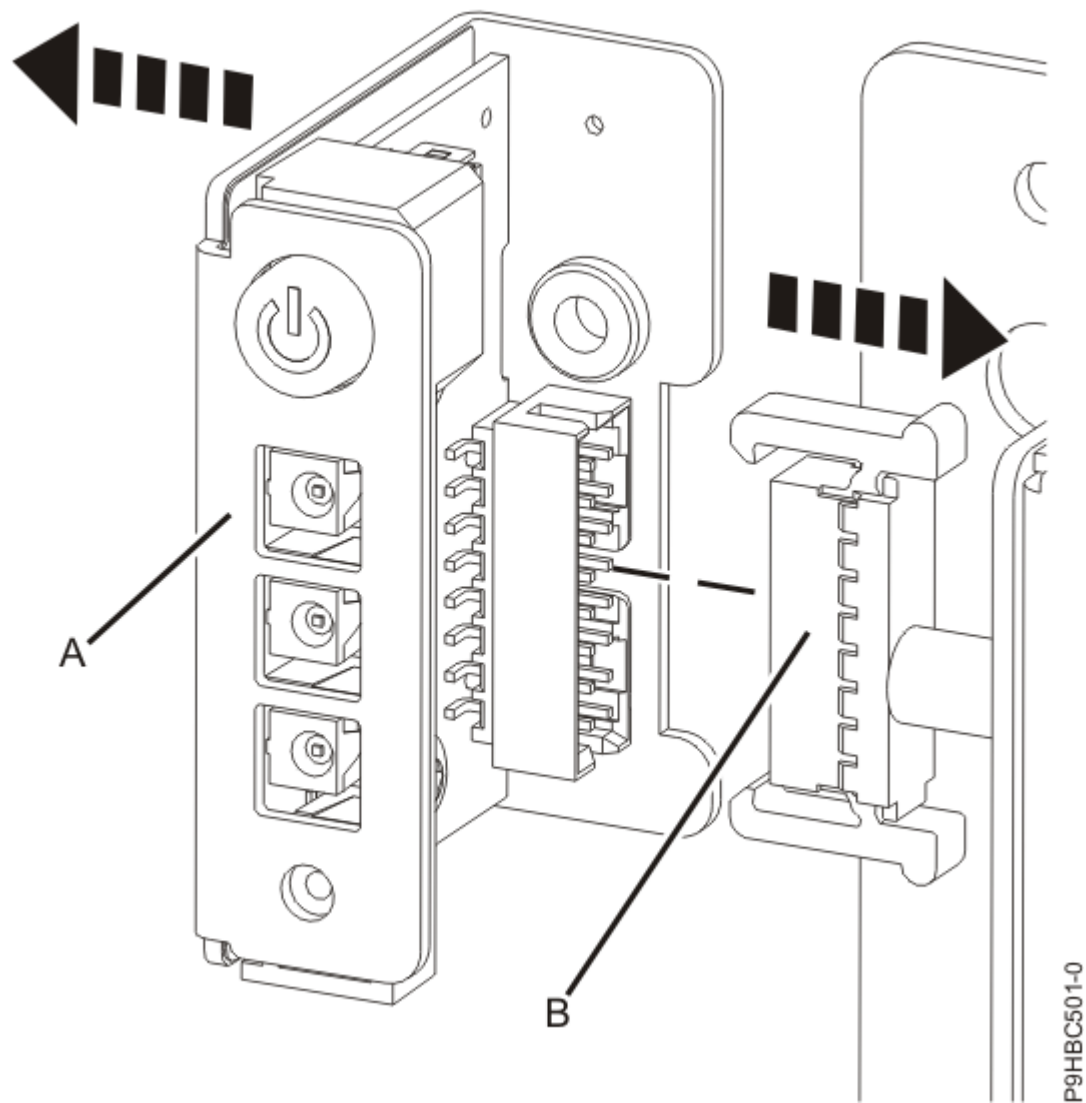

Figure 10. Disconnecting the control panel from the cable
3. Disconnect the control panel **(A)** from the cable **(B)** as shown in Figure 10 on page 12.